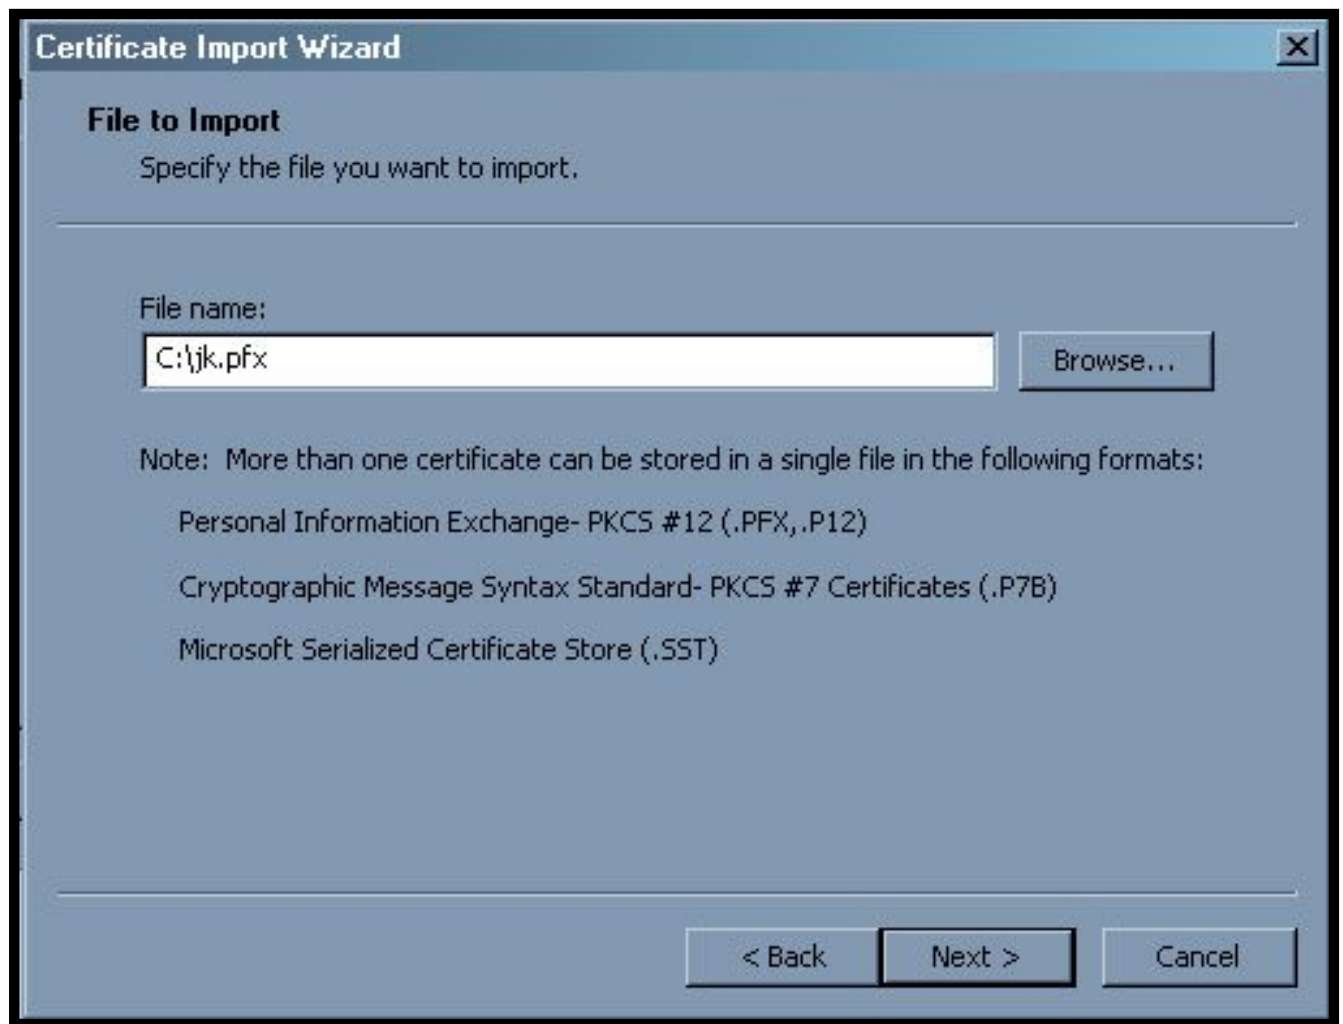

Figure 4.2-3: File to Import Screen
4. Click the *Browse* button on the "File to Import" screen, navigate to the directory specified in step 8 in section 4.1 above, and select the client certificate file. Click the *Next* button. See Figure 4.2-3 below.